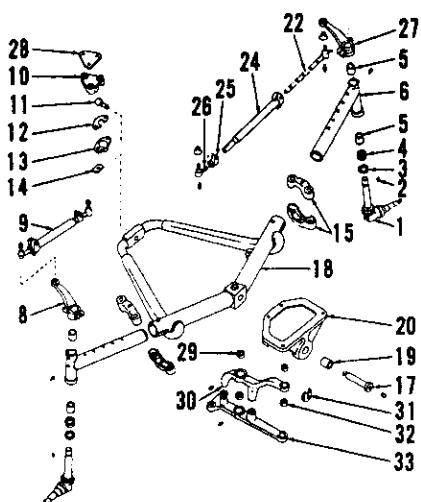
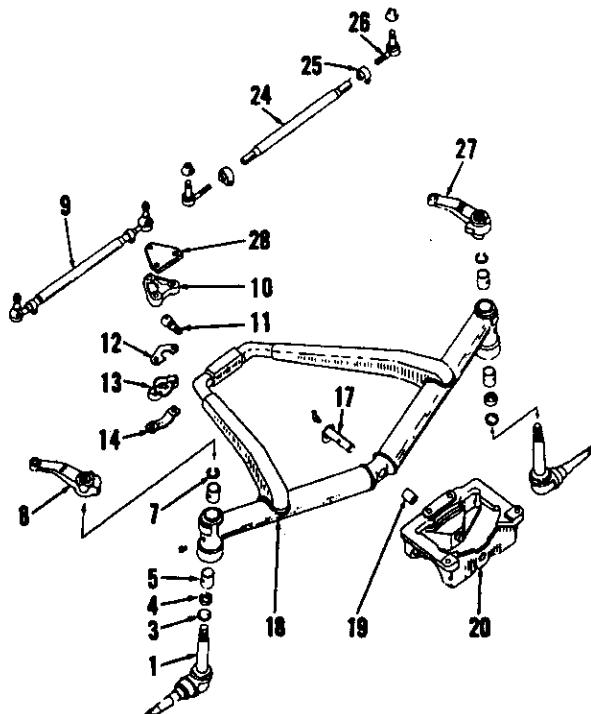

Fig. 5—Exploded view of Series 424, 444, 2424 and 2444 narrow tread adjustable front axle and component parts.
Fig. 6—Exploded view of Series 424, 444, 2424 and 2444 heavy duty non-adjustable front axle and component parts.
To remove the axle main member assembly, support front of tractor using a jack under the clutch housing. Disconnect tie-rods from steering arm at center of tractor. On models equipped with standard axle (Fig. 4) or heavy duty axle (Fig. 6) and with power steering, disconnect hydraulic cylinders from axle main member. On models equipped with narrow tread axle (Fig. 5) and with power steering, unpin anchor end of cylinder and unbolt and remove lower cylinder arm (33). Remove cylinder or secure with wire on left side of tractor. Then on all models, adjust the height of the jack to
The procedure for removing steering knuckles (1—Fig. 6) from the non-adjustable heavy duty axle is the same as the adjustable axle with the following exceptions: The steering arms and steering knuckles are splined instead of having Woodruff keys. Snap rings (7) must also be removed before steering knuckles can be removed from axle.